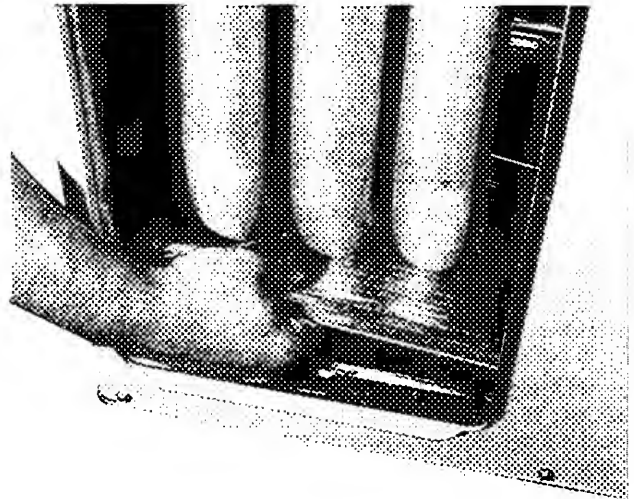
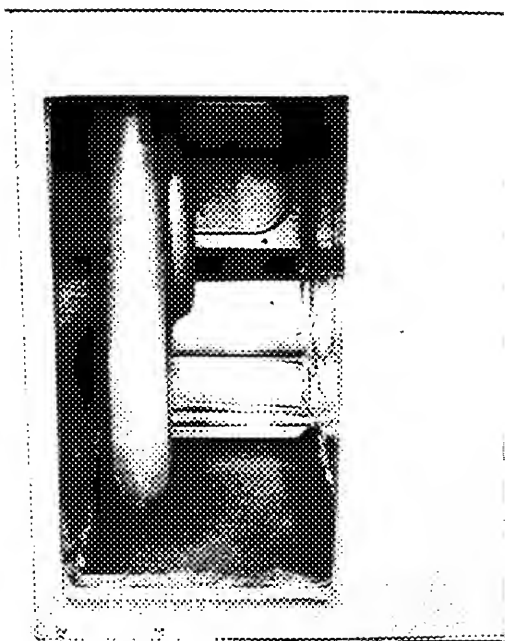

Fig. 19 – Removal of Vertical Discharge Opening Cover
Fig. 20 — Vertical Discharge Cover Removed
6. Remove and discard 2 screws which secure vertical discharge opening cover to basepan (Fig. 19). Slide cover forward to disengage, then tilt and remove cover through vertical discharge opening in bottom of unit. Discard duct cover (Fig. 20).